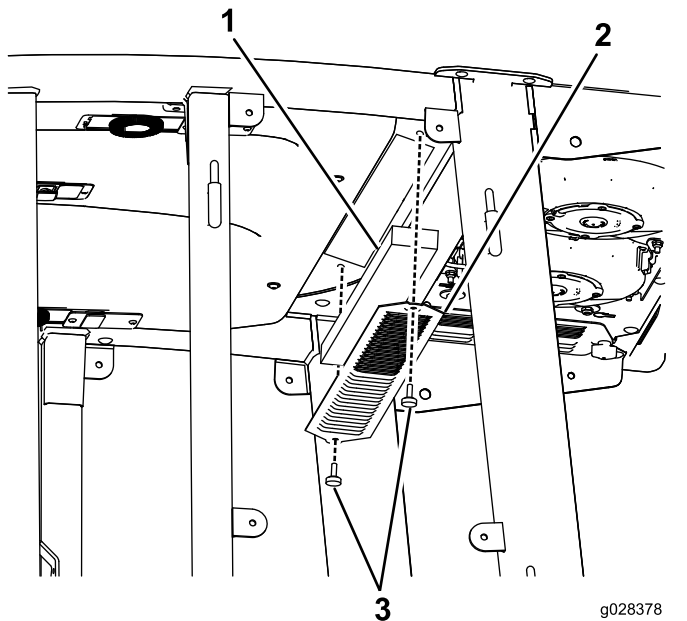

Figure 106
3. Remove the cabin roof of the cab by removing the 22 bolts that secure the roof (Figure 106).
4. Remove the air filters (Figure 106).
5. Remove and clean the air-conditioning coils (Figure 106).